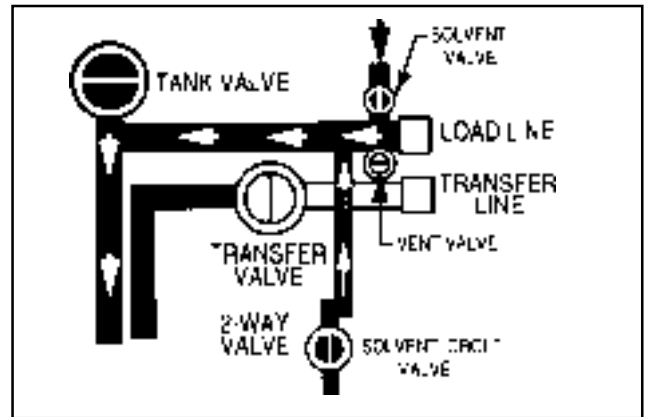

FIGURE 23 - Cleanout Valves
6. Open the Solvent Valve on the Load Line. (Figure 23) This valve and line connect to the solvent tank or the diesel burner fuel tank.
9. Close the Solvent Valve on the Load Line and open the Solvent Circulate Valve. (Figure 23) Run for 2 - 5 minutes to circulate solvent through the system.
16. Stop the pump. Close the spray bar valves and Vent Valve (Figure 23).